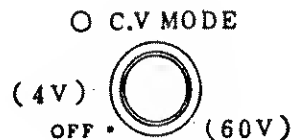

Figure 2-9-3
Step 5. Set a desired voltage value with the CV mode dial. (See Fig. 2-9-3). A yellow LED will be lit during the constant voltage mode. If the LED is not lit one of the following may be the cause: